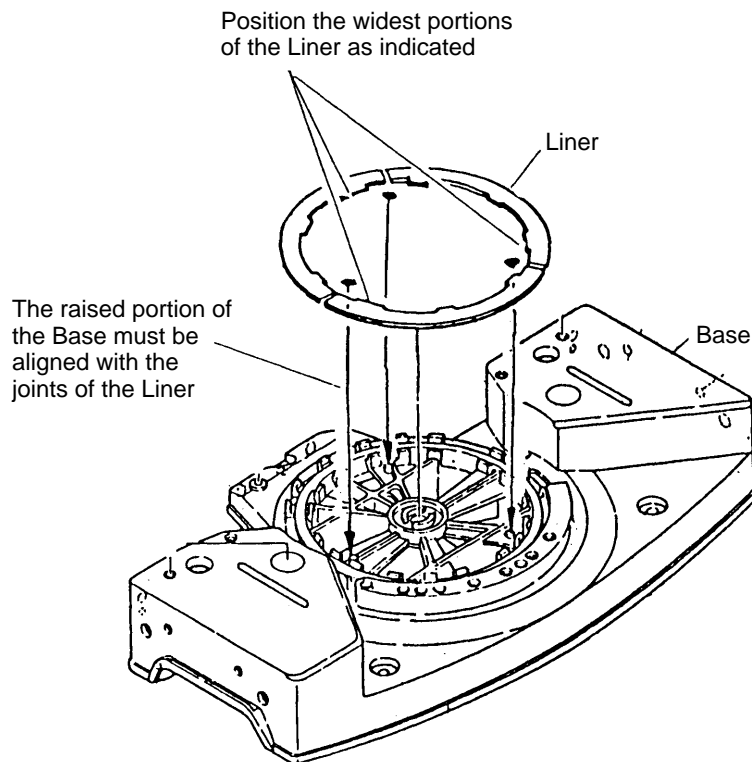

Fig. 1
- (1) Prior to reassembly, measure the insulation resistance of the Armature Assembly, Stator Assembly, Switch and other electrical components with a 500V DC Megohm Tester, and confirm that the insulation resistance of each part is more than 5 MΩ. If the insulation resistance of any component is less than 5 MΩ, that component must be replaced with a new one.
- (2) If the M12 Nut [45] and M12 Cap Nut [44] of the Hinge Shaft [47] are fastened too tightly, it will interfere with the smooth movement of the Gear Case Assembly [35]; if they are fastened too loosely, there will be excessively play and vibration between the Gear Case Assembly [35] and the Hinge [16] which will result in uneven and inefficient cutting. Carefully adjust the M12 Nut [45] and M12 Cap Nut [44] so that the Gear Case Assembly [35] moves smoothly without excessive play or vibration.
- (3) If the M12 Nut [55] and M12 Cap Nut [54], Spring (C) [63], and Steel Ball [64] of Holder Shaft [61] are fastened tightly, it will interfere with the smooth movement of Holder (A) [11], and will result in inefficient believing of the saw blade. Carefully adjust the M12 Nut [55] and M12 Cap Nut [54] so that the Holder (A) [11] slides smoothly without excessive play or vibration.
- (4) When replacing the Spring [26], apply approximately 3 grams (.11 oz) of grease (Hitachi Motor Grease, Code No. 930035, is recommended) to the inner circumference of the new Spring prior to assembly.
- (5) When replacing or reassembling the Liner [65], ensure it is positioned and assembled as illustrated in Fig. 1. In addition, coat approximately 8 grams (.28 oz) of grease (Hitachi Motor Grease, Code No. 930035, is recommended) on the Liner sliding portion of the Turn Table [62].